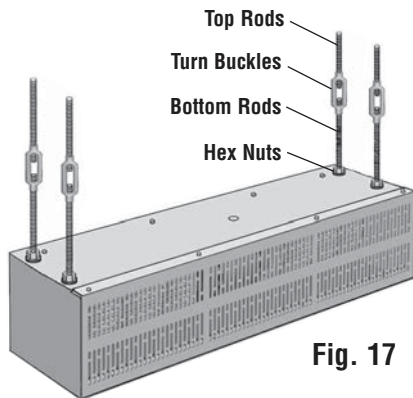

Fig. 17
3. Screw the top rods into the ceiling brackets (supplied by others). (See Fig. 17)